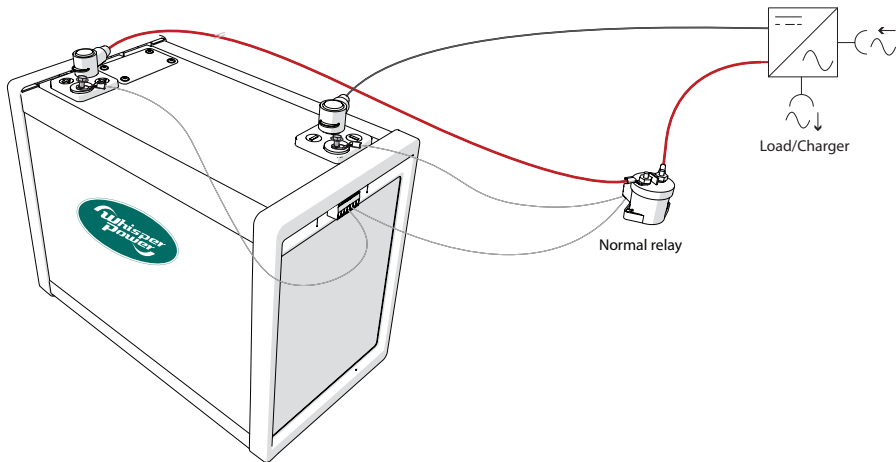

Figure 13. Connecting the battery to the load
6. Place the terminal covers over the terminals (Figure 13)